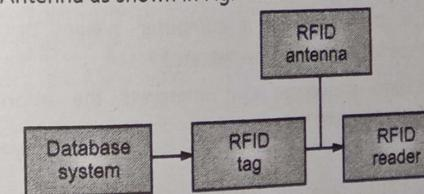

Fig. 4.11 : Block diagram of RFID
- An RFID system mainly consists of three components, RFID Tag (Transponder), RFID Reader (Interrogator) and Antenna as shown in Fig. 4.11.